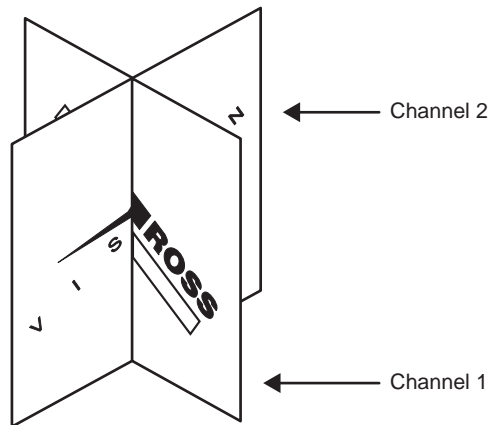

Figure 8.1 Intersecting Channels
- **Intersecting** — Both channels intersect. This allows you to have one channel slice through the other (**Figure 8.1**).